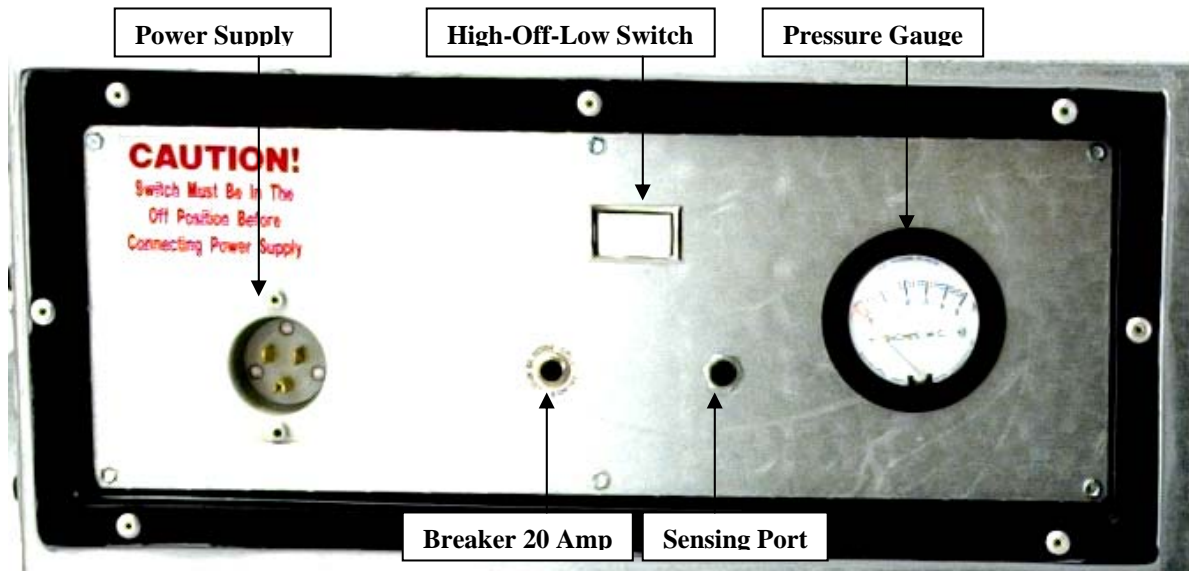
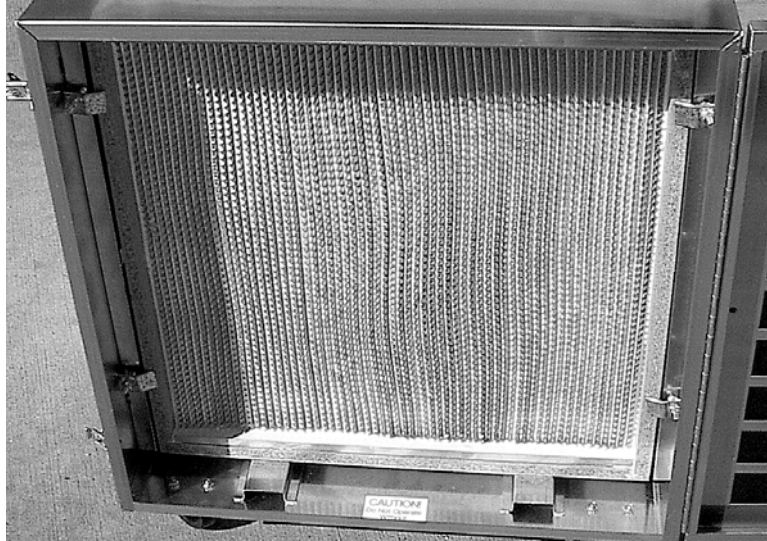

Fig. 1 Control Panel
Fig. 4 HEPA Filter
- 3.4.2 The main switch is located on the control panel (see fig. 1) and is a three position switch (High-Off-Low). Push the switch to the right to operate in low speed or to the left to operate in high speed, the middle position is off.
4.1.3 Removes large particles up to 10 microns and larger from the air flowing through the unit, thereby preventing premature loading of the second stage and HEPA filters. The pre-filter pad (see fig 2) is recommended to be changed as it becomes loaded and the airflow capacity of the unit decreases, or the pressure gauge at the control panel exceeds 2.6 inches at high speed or 1.9 inches at low speed, of W.C. (see fig 1).
4.2.3 Removes particles up to 1 micron and larger from the air flowing through the unit, thereby protecting the more expensive, HEPA filter. The ring panel filter (see fig 3) is recommended to be changed as it becomes loaded and the airflow capacity of the unit decreases, or the pressure gauge at the control panel exceeds 2.6 inches on high speed (1.9 inches on low speed) of W.C. (see fig 1).
4.3.3 Removes smaller contaminant particles up to 0.3 micron from the air flowing through the unit and has an efficiency rating of 99.97%. The HEPA filter (see fig 4) is recommended to be changed as it becomes loaded and the airflow capacity of the unit decreases, or the pressure gauge at the control panel exceeds 2.6 inches on high speed (1.9 inches on low speed) of W.C. (see fig 1). Or depending on the use, every 700 hours per agency recommendations.